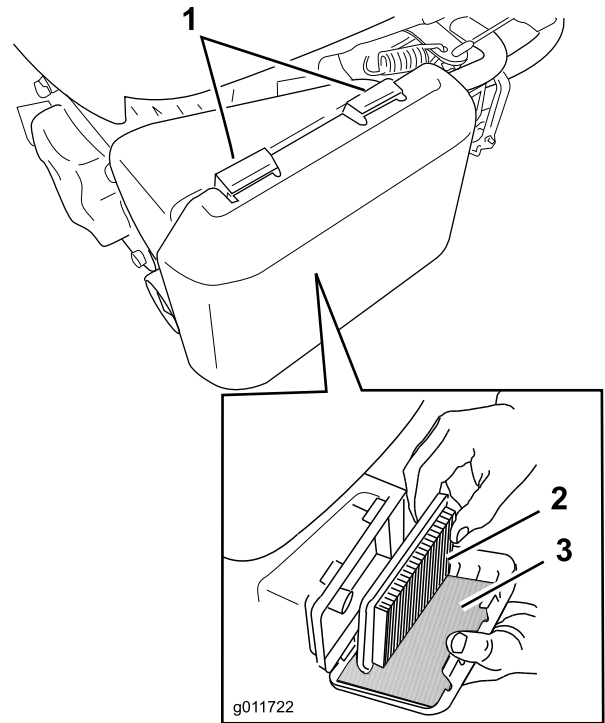

Figure 37
1. Press down on the latch tabs on top of the air-cleaner cover (Figure 37).
3. Remove the paper air filter and the foam pre-filter (Figure 37).